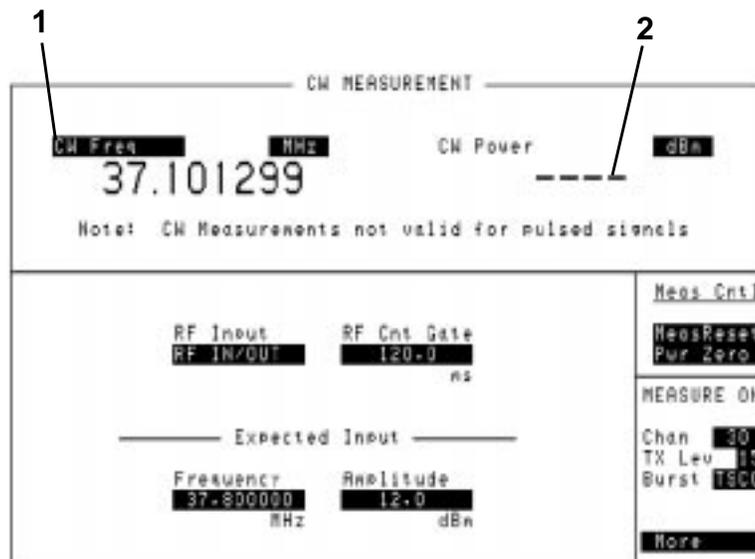

Figure 2-15
The CW Frequency field (1), see Figure 2-15 on page 2-28, displays the carrier frequency of the signal and CW Power (2) shows the power of the carrier signal. It is also possible to display the difference between the measured frequency and the value selected by choosing **CWFreqErr** from field 1.